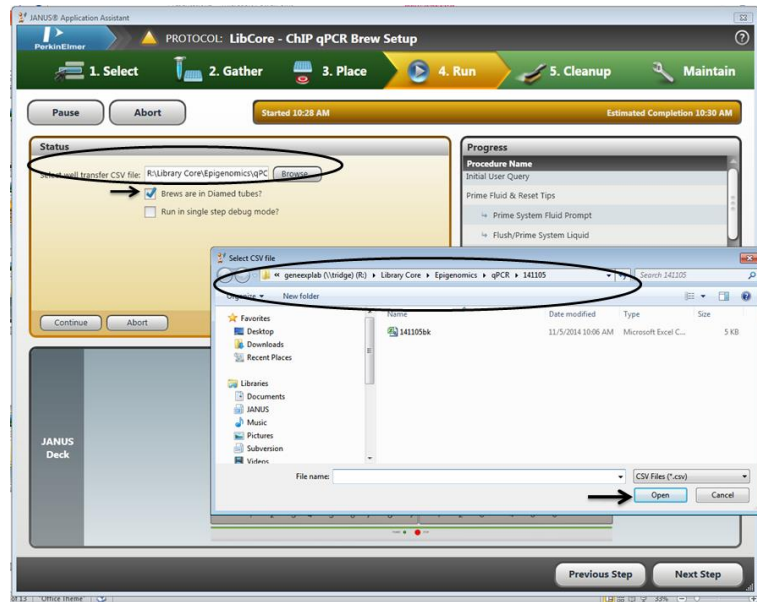

Figure 10: Brew labware option
- 3.22. Click on the checkbox, as indicated in Figure 10 for the brews are made in Diamed tubes.
3.23. Click “Continue” (Figure 10)